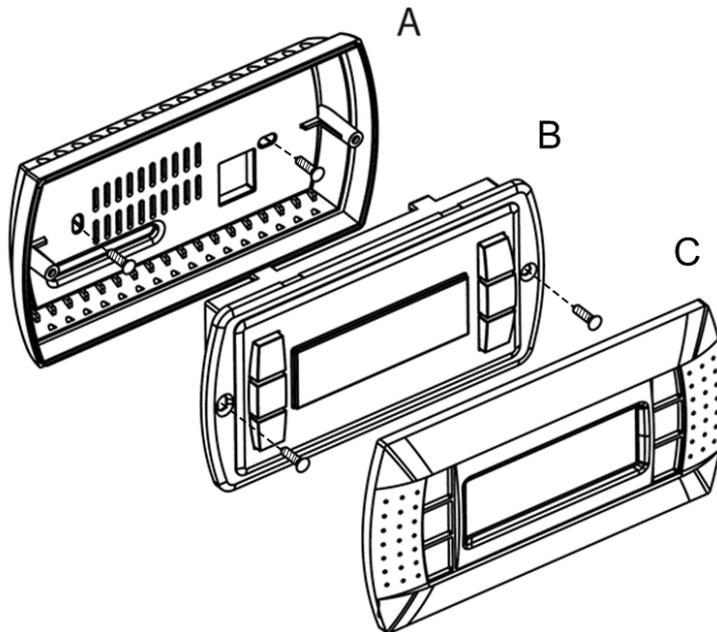

Figure 23 – Wall-Mounting
- The digital control consists of three main parts (A, B, C in Figure 23):